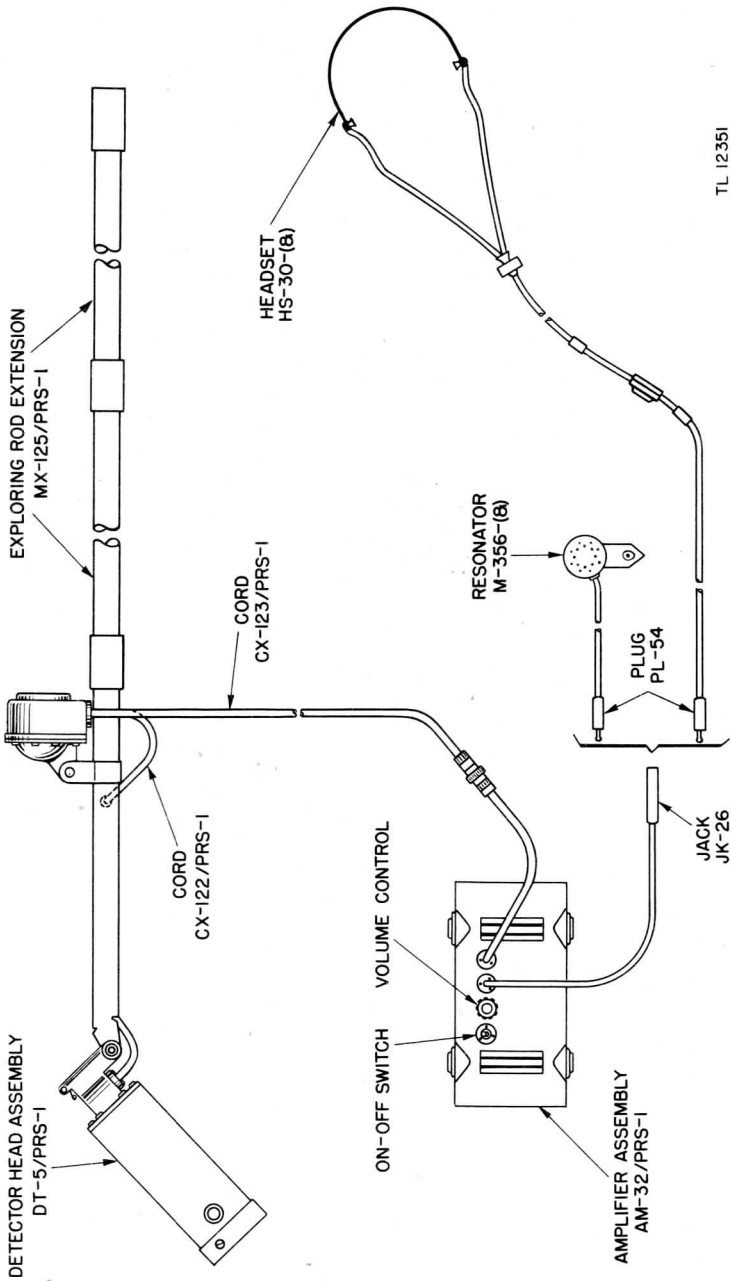

Figure 5. Detector Set AN/PRS-1, cording diagram.
**5. ASSEMBLY OF COMPONENTS (fig. 5).** Do not force any parts of Detector Set AN/PRS-1 when assembling. To assemble for use: